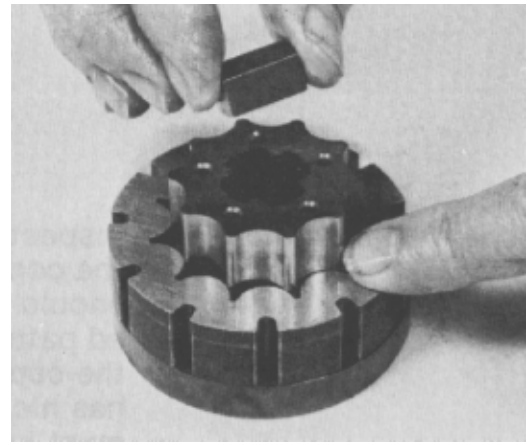

Figure 68
34. Remove the drive link spacer (Fig. 68). Replace it if it is grooved or worn.